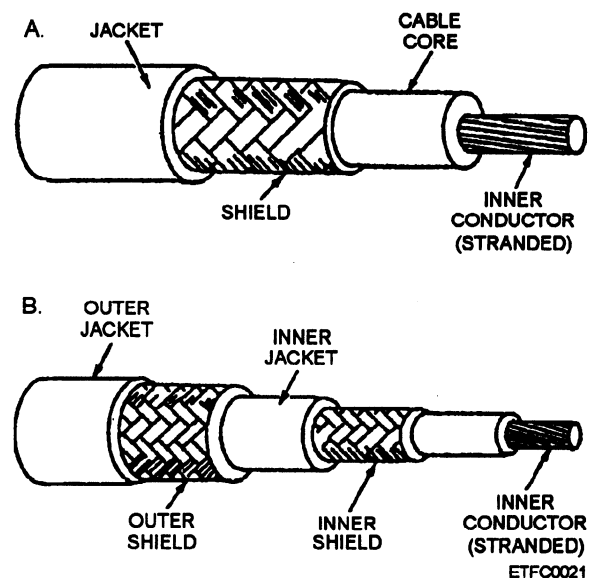

Figure 2-35.—Coaxial cable: A. Single; B. Triaxial.
**COAXIAL CABLES.** —Coaxial cables are designed to transmit signals efficiently between 1 kHz and 4000 MHz with minimum loss and little or no distortion. A coaxial cable is made of a central signal conductor covered with an insulating material (the dielectric core), which in turn, is covered by an outer tubular conductor (the return path). The cable is called coaxial because the conductors, usually two or three, are separated by the dielectric core. The inner core can be solid or stranded wire that is bare, timed, or silver coated. Coaxial cables always have an outer shielding; refer to MIL-C-17 for specifications. Commonly used coaxial cables include RG-12A, RG-58, and RG-59 for coaxial and TRF-8 and TRF-58 for triaxial. Coaxial component cables are terminated with circular multipin connectors. Coaxial cables are used for serial transfer of data. Figure 2-35 shows examples of two types of coaxial cable: single and triaxial.